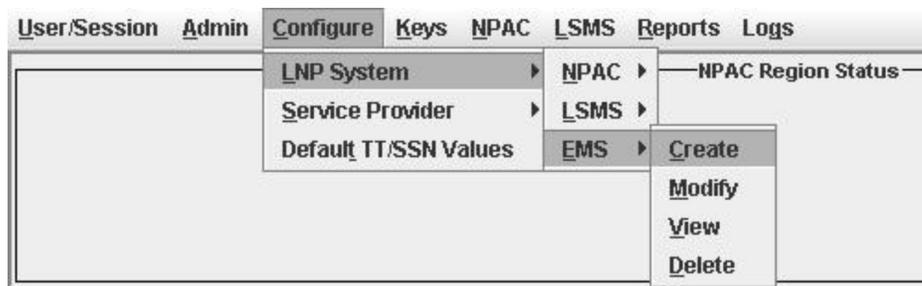

Figure 48: LNP System Menu – Create EMS
2. From the LNP System menu, shown in Figure 48: LNP System Menu – Create EMS, select **Configure** ► **LNP System** ► **EMS** ► **Create**.